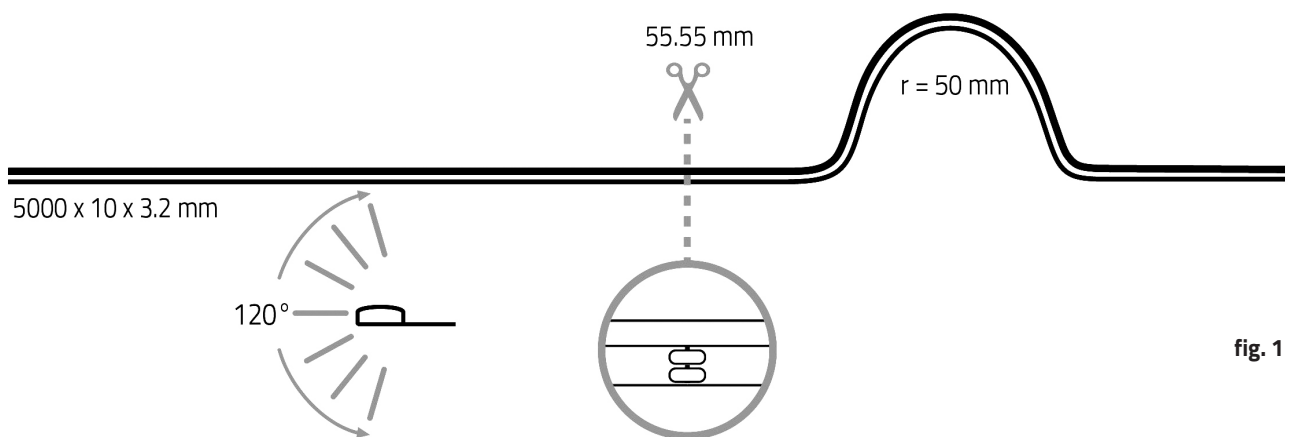

fig. 1
2. Shorten **VARDIFLEX** LED strip if necessary (Fig. 1).
LED strip can be separated in each case after **twentyone LEDs (55.55 mm)** (Fig. 1).